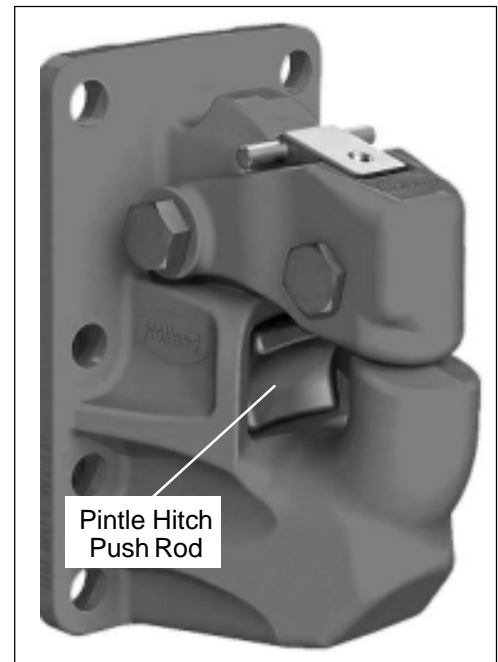

Figure 1 — Plunger Location
5. Observe if the pintle hitch push rod (refer to Figure 1) extends or does nothing when the service brake is pressed and the park brake(s) are set.